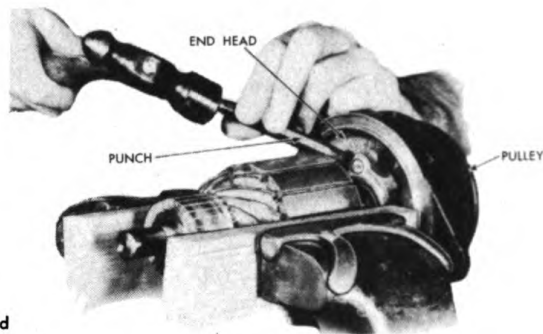

Figure 236. Removing Pulley.
7. Remove the pulley from the armature shaft with a puller or by tapping, as shown in Figure 236. Press the armature shaft out of the end head with an arbor press as illustrated in Figure 237.